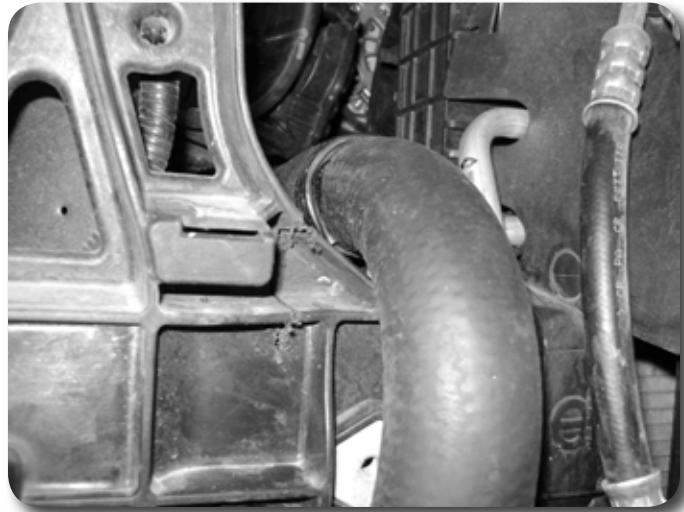

Figure 11a
13. The core support around the radiator hose will need to be cleared if the truck has two radiators. It is possible to do this while the hose is in place, use extra care not to damage the radiator hose. Figures 11a, 11b, 11c